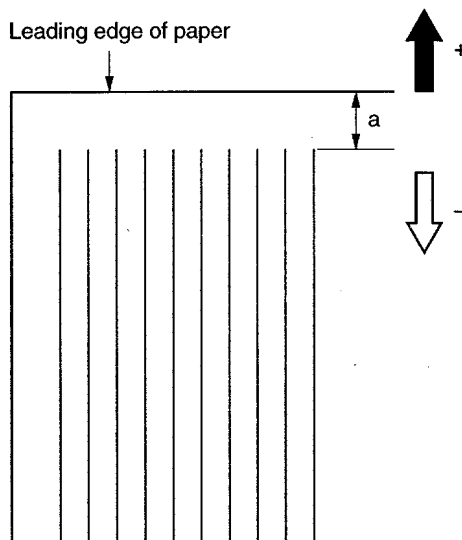

Figure 6-24 Adjusting the Top Margin
- 2 Measure the length from the leading edge to the print pattern ("a" in Figure 6-24). Measure all the test prints and calculate the average.